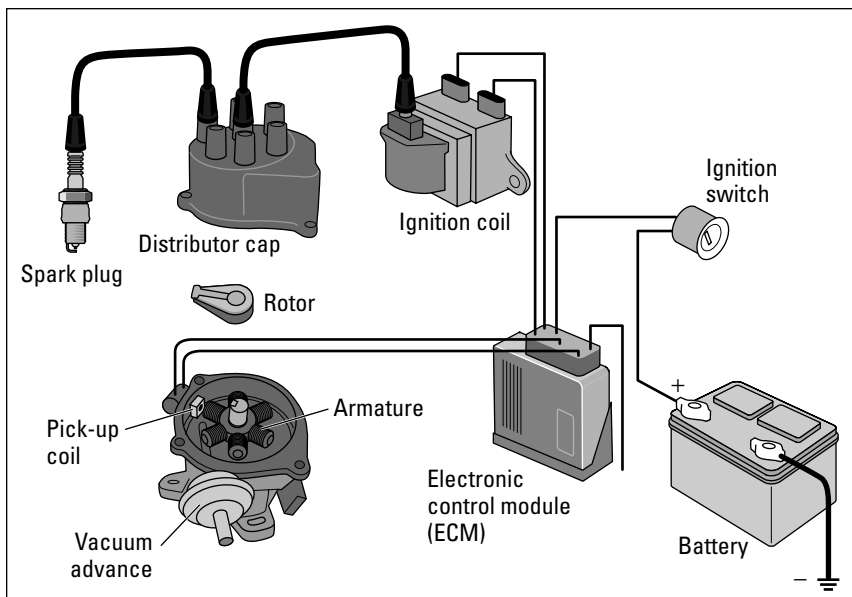

Figure 5-18: An electronic ignition system with a distributor.
Although most more recent vehicles don't have **distributors**, many built from the mid-1970s to the mid-1990s still have them. (If your vehicle doesn't have one, you can disregard this section and bop on down to the sections "Warning Lights and Malfunction Indicator Lights (MIL)" and "Other Electrical Gadgets.") In an ignition system with a distributor, the distributor works in much the same way as the old-fashioned mechanical distributor that preceded it, but without all the moving parts that constantly needed adjusting. It still gets voltage from a coil and distributes it to each spark plug in turn. The good news is that electronic distributors are relatively trouble-free. The bad news is that if they break down, you have to pay a professional to replace them. They include the following parts, which can be seen in Figure 5-18:
- ✓ The **rotor** (refer to Figure 5-18) sits atop the distributor shaft inside the distributor. As the distributor shaft turns, the rotor rotates with it and points toward the terminal at the base of each spark plug wire so that each plug can fire in the correct order. For example, when the rotor's pointing at the terminal of the wire leading to the #1 spark plug, it directs the current to that spark plug at precisely the time when the **fuel/air mixture** in the #1 cylinder is waiting to be burned.
- ✓ The **armature** (refer to Figure 5-18) sits inside the distributor, revolving past a **sensor** called the **pickup coil**. Each time one of the teeth on the armature passes the sensor, it creates voltage that signals an **ignition control module (ICM)** to shut down the primary circuit in the coil. This "fires" a jolt of high voltage to the secondary coil circuit, which shoots it